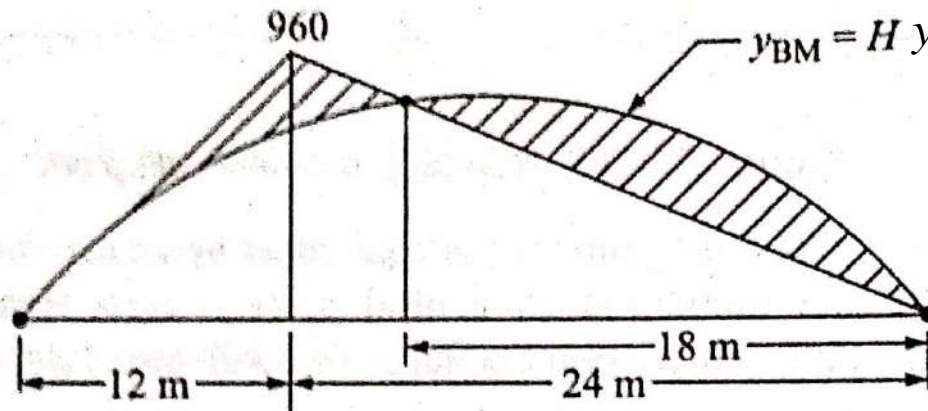

Figure 2: Bending Moment Diagram
- The beam moment is drawn first as shown in Figure 2.